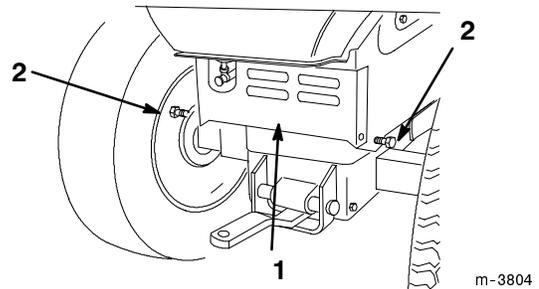

Figure 3
1. Remove the rear panel by removing the two bolts and nuts, located on each side of the panel (Fig. 3).